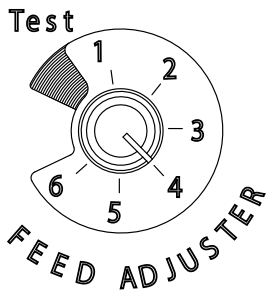

Figure 4.8
4. *Adjust Feed Rate. If this is your first fire or you are trying different pellets, set the feed adjuster to #4, Figure 4.8. This is a conservative number and will probably need to be increased. After you know a feed rate setting that works well, use that setting. Remember, if your feed rate is too high you may waste fuel.*